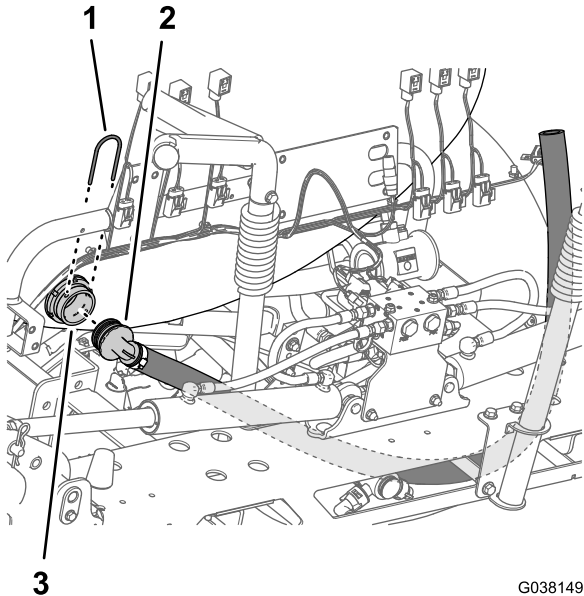

Figure 28
1. Remove the retainer that secures the 90° barbed fitting of the section bypass hose for the boom-section valves from the bulkhead fitting at the back of the sprayer tank (Figure 28).
2. Remove the 90° barbed fitting from the bulkhead fitting (Figure 28).